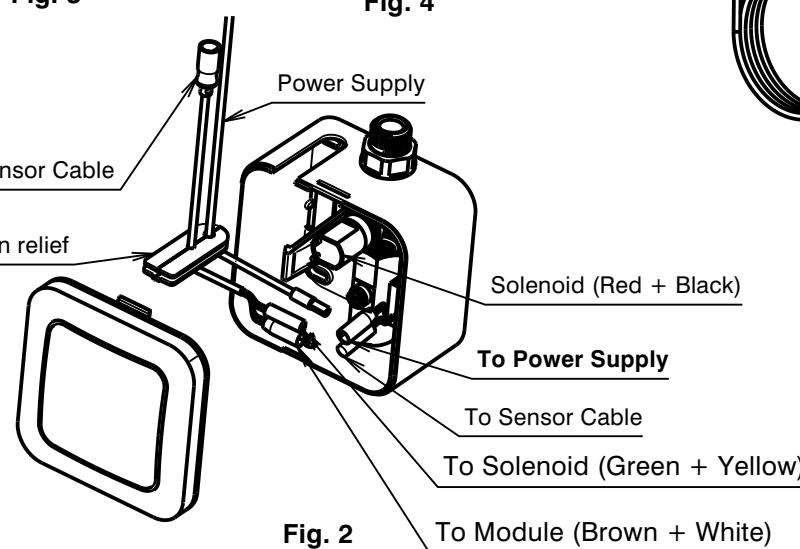

Fig. 2
- 4) **Connect cables to controller:** Remove split strain relief from box & connect Power Supply cable to Control Module as shown in Fig. 2. Then connect Control Module to Tap Sensor Cable and Tap Sensor Cable to Solenoid. Open the relief and pass Power Supply cable and Tap Sensor Cable through. Wind up any excess Power Supply cable and store inside the control box. Re-insert the strain relief and ensure that power, sensor, solenoid and module cables are connected and secured (Fig.2).